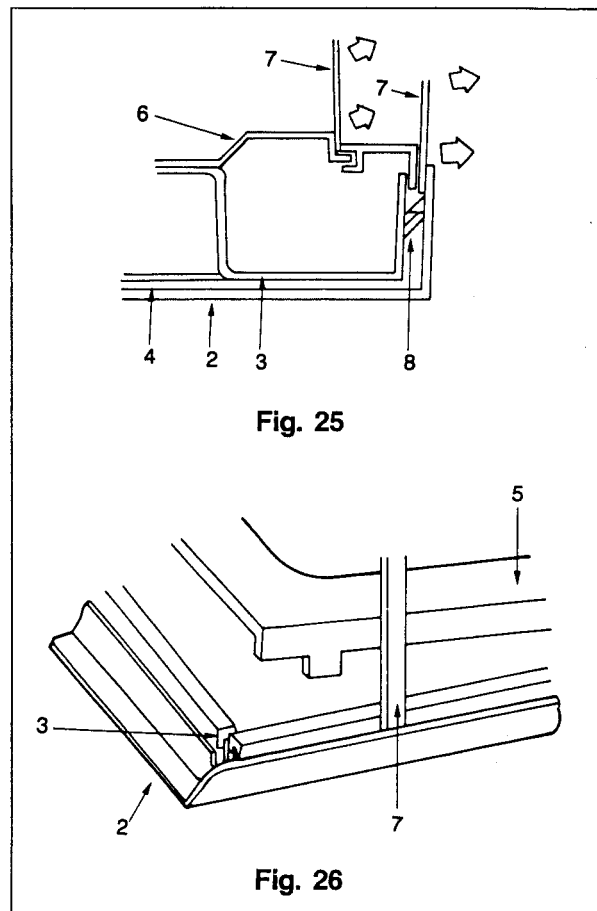

Fig. 25
- 2) Remove three screws (1) which secure the door weld assembly (3).
- 3) Disengage four insides of door cover (5) from the door seal (6) of door weld assembly using a thin metal plate or screw driver (7) as indicated (refer to Fig. 25).
- 5) Disengage three insides of door frame (2) from the projections (8) of door weld assembly using a thin metal plate or screw driver (7) as indicated (Refer to Fig. 25, 26)
- 7) Detach outer barrier (4).